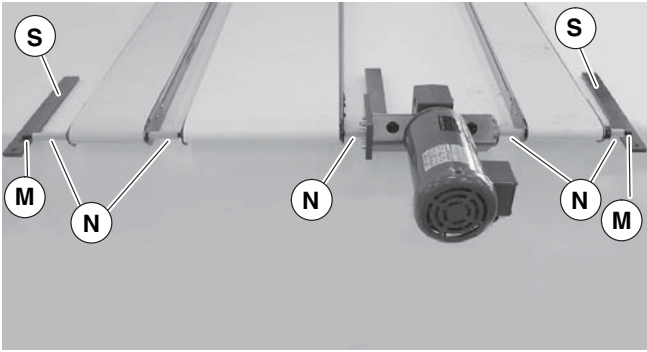

Figure 34
4. Remove hex shafts (Figure 34, item M) and shaft cover pieces (N).